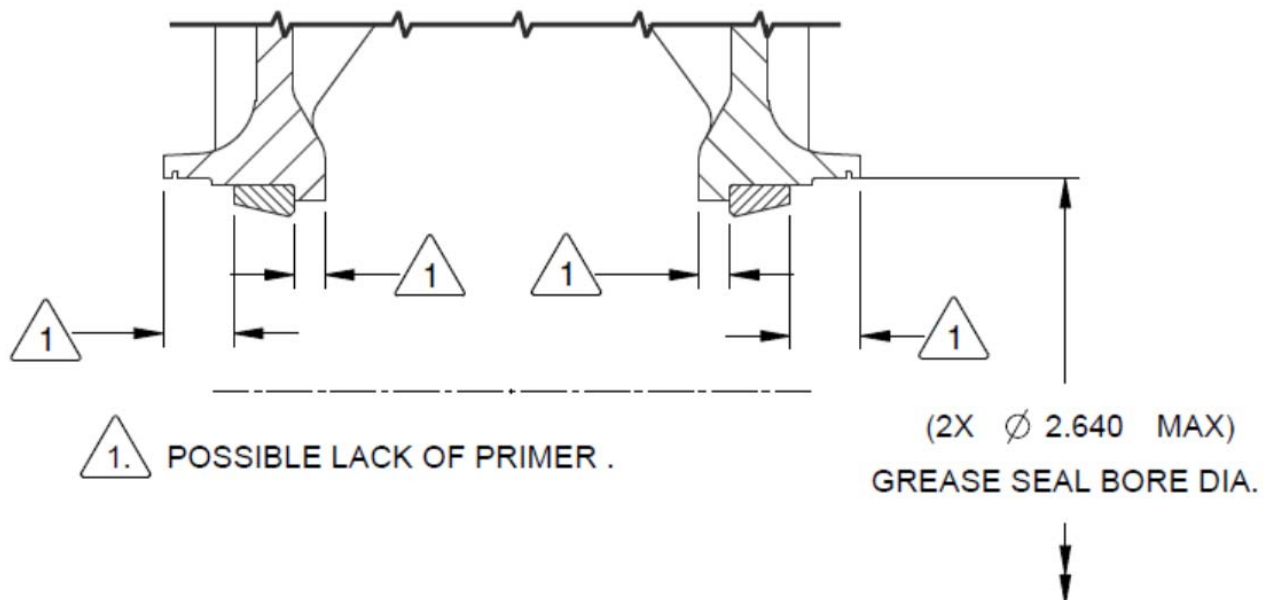

Figure 1 Possible lack of primer
To address possible lack of primer in the inboard and outboard bearing bore areas. Refer to Figure 1.
- (1) Refer to Figure 1 and clean the inboard and outboard bearing bores with a suitable cleaning/degreasing solvent.
- (2) If required, dry the bearing bore area with a clean lint free cloth or allow to air dry.
Inspect bearing bore for conformal coating of primer per Figure 1.
- 3 Refer to Figure 1 and measure the inboard and outboard grease seal bore diameter in three places where pitting has not occurred. Diameter should not exceed Ø 2.640 max to maintain squeeze on the grease seal.